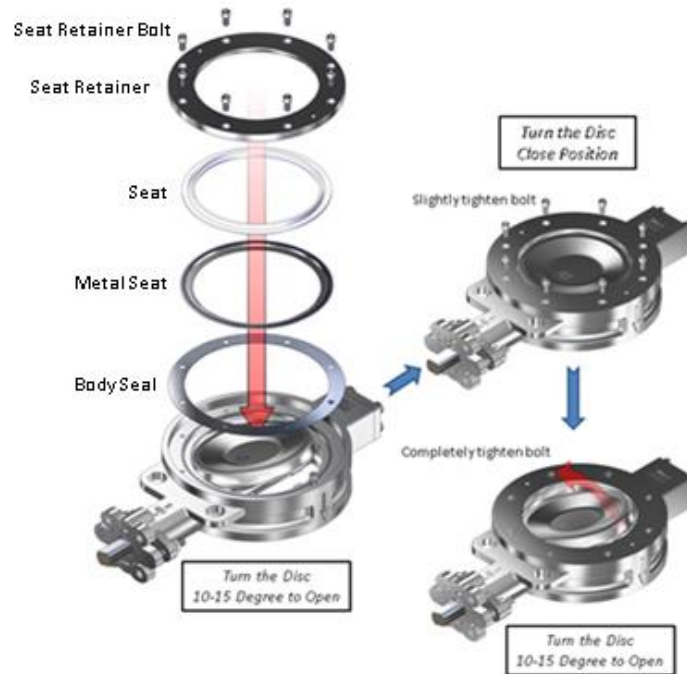

FIGURE 7. FIRE SAFE SEATED RETAINER REPLACEMENT DIAGRAM
1. Refer to Figure 7 for fire safe seat replacement.